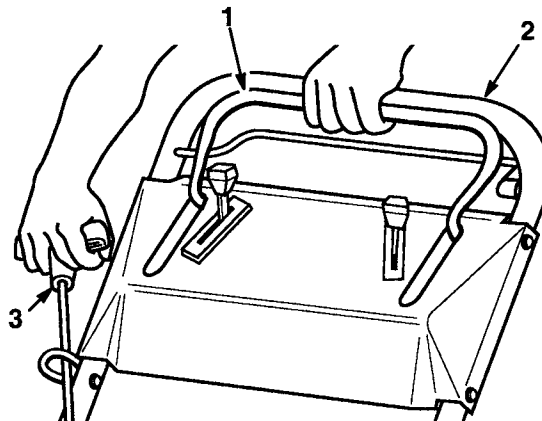

Figure 34
8. Holding blade control bail against handle pull starter rope several times to blow out loose carbon (Fig. 34).